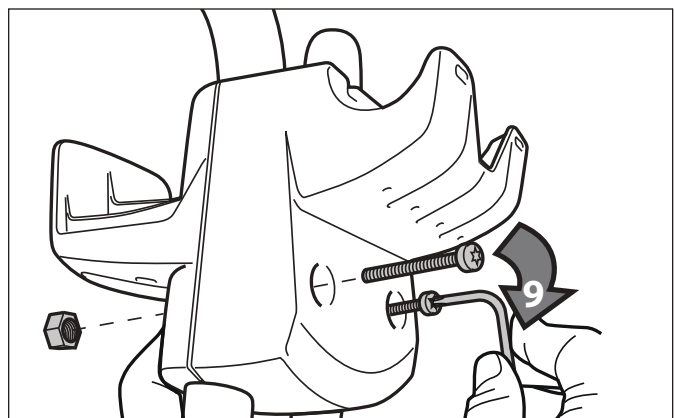

Figure 8. Secure the Hooks
6. Secure the control unit hook using two (2) bolts and two (2) nuts and tighten with Torx wrench. Refer to Figure 8.